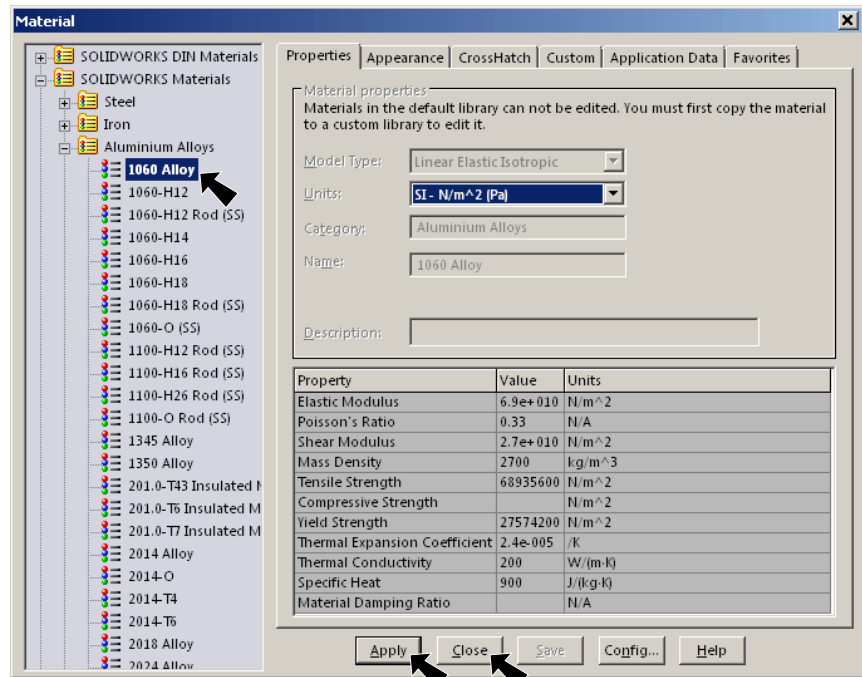

Fig. 13
Step 2. Expand **Aluminum Alloys** in the material tree and select **1060 Alloy**, Fig. 13. Click **Apply** and **Close**.